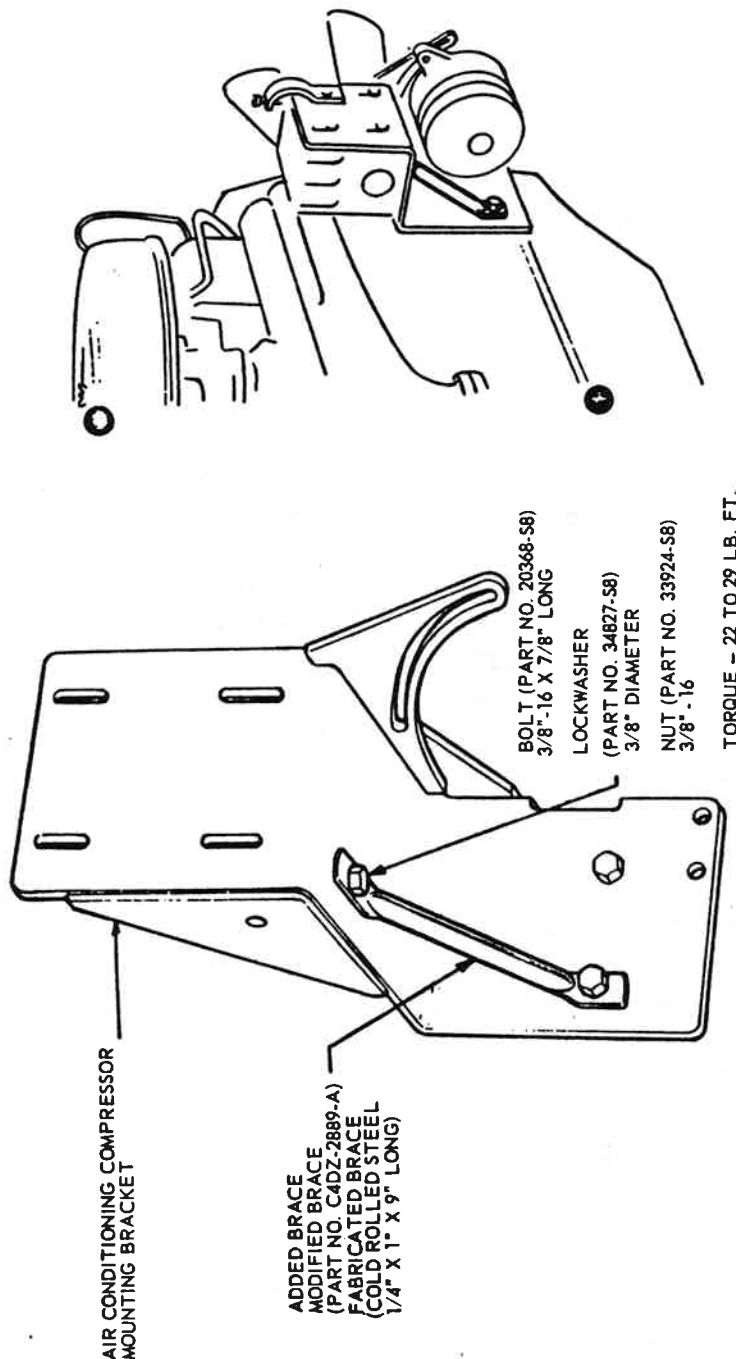

Fig. 2 - 6-Cylinder With Air Conditioning Moan And Vibration Periods Due To Insufficient Compressor Support. - (Article 363)
1. The added brace is to fit between the lower rearward A/C compressor bracket mounting bolt and run diagonally up to the rear outer bottom of the bracket. The brace may be made by modifying a current Falcon compressor lower brace, Part No. C4DZ-2889-A, or fabricating it from a piece of cold rolled steel, $\frac{1}{4}$ x 1 x 9 inches long (See Fig. 2).